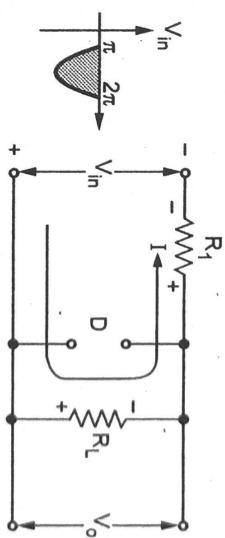

Fig. Q43.2 Operation during negative half cycle
- During negative half cycle of input, the diode is reverse biased and acts as open circuit. The entire current flows through R_L as shown in the Fig. Q43.2.